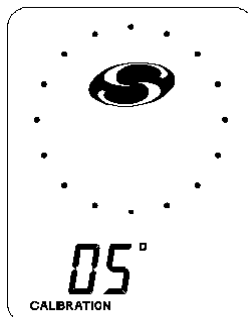

Figure 9. LCD Declination Angle Degree Display
- Turn the compass back over to introduce the degree value of the declination angle. Use the MENU button to increment the value. The display will appear as shown in Figure 9. After the correct value of the declination angle for your region has been set, press the ENTER button. See Section 7 for an overview of the declination angle.